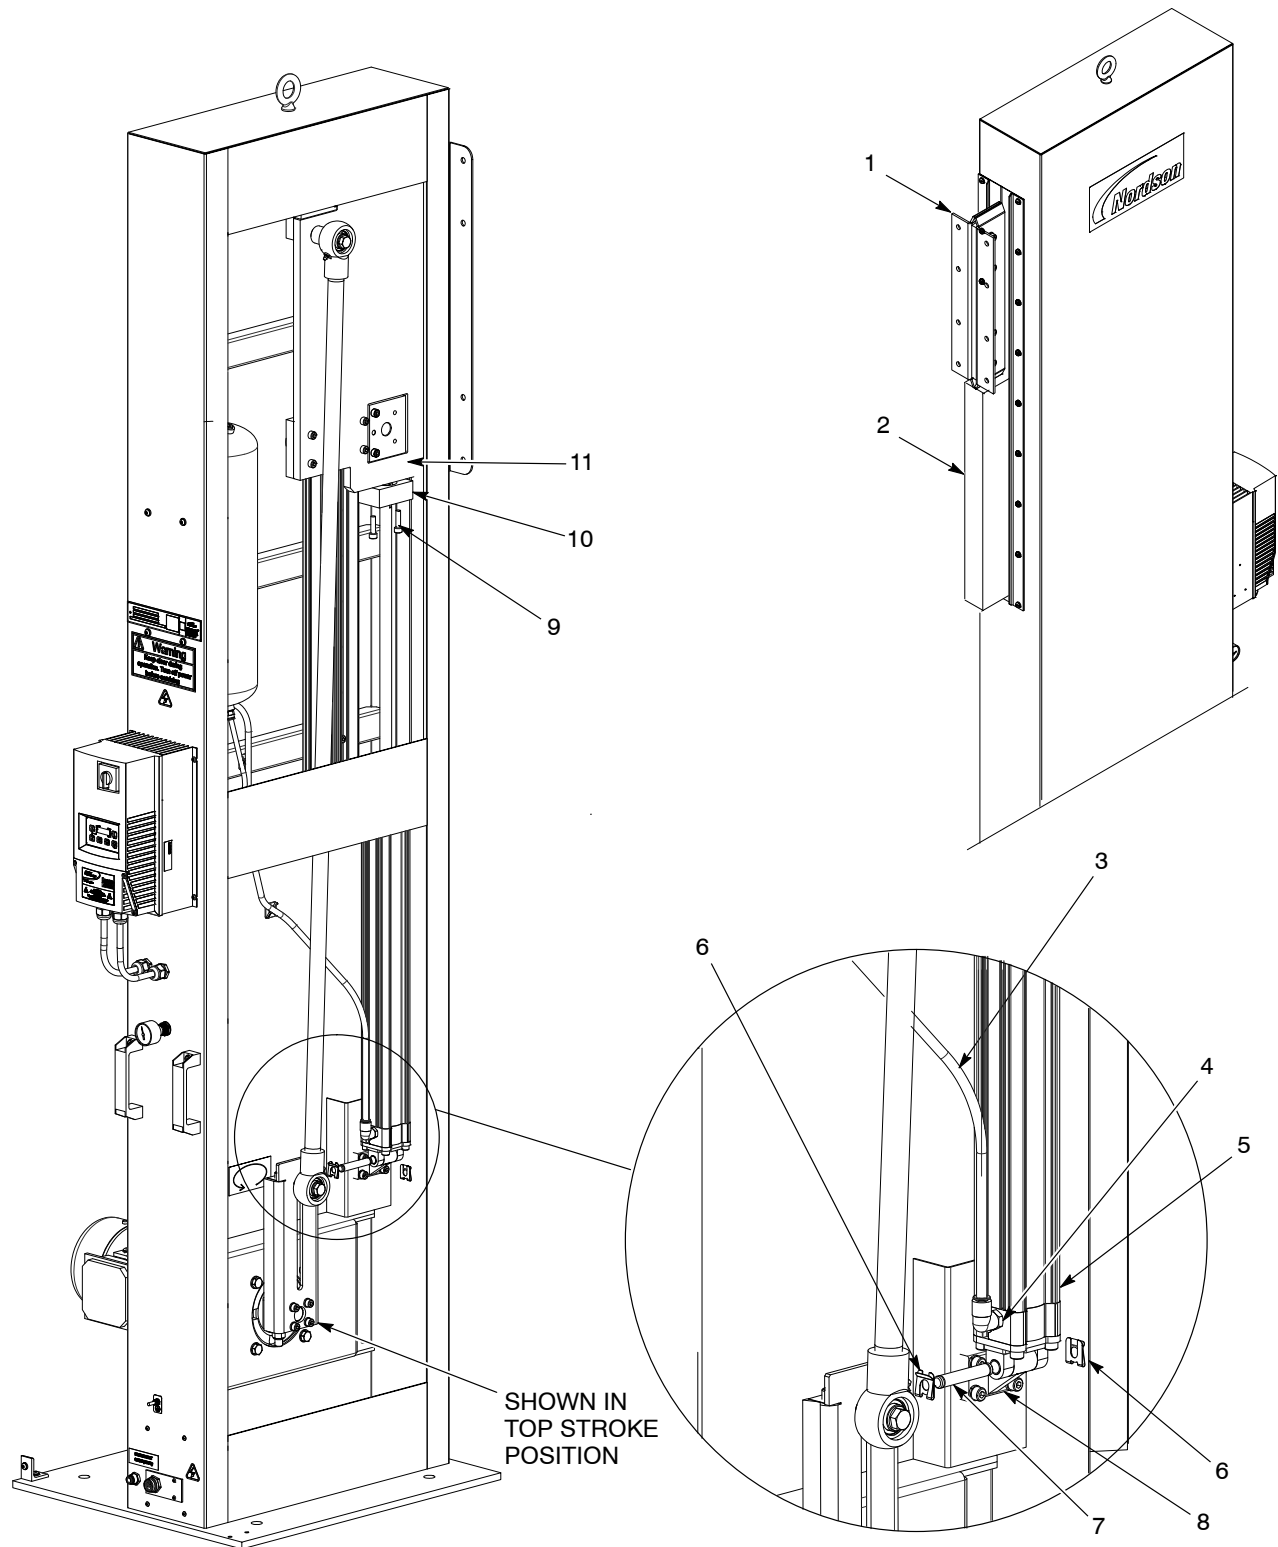

Figure 2 Removing the Air Cylinder
1. See Figure 2. Remove the guns and mounting hardware from the mounting plate bracket (1).
2. Move the gun mounting plate assembly (1) to the top stroke position. Use a block (2) as shown to secure the the assembly (1).
4. Disconnect the air line (3) from the air cylinder fitting (4).
5. Remove the clips (6) and pin (7) securing the air cylinder (5) to the bracket (8).
6. Remove the two screws (9) securing the rod end mount (10) to the gun mount plate (11), and collapse the air cylinder rod into the housing. Remove the air cylinder from the oscillator.
7. Move the gun mounting plate assembly (1) to the bottom stroke position by carefully removing the block (2).